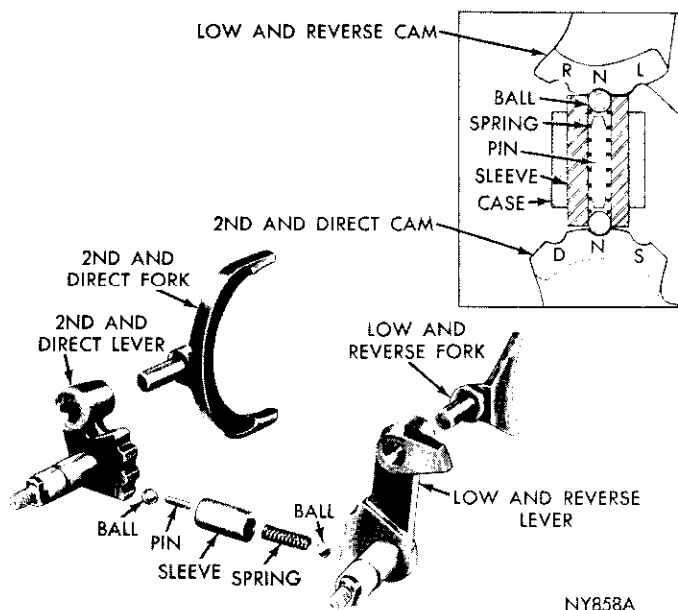

Fig. 25—A-903 Shift Forks and Levers
(1) Remove operating levers from their respective shafts.
(2) Drive out tapered retaining pin from either of the two lever shafts, then withdraw lever shaft from inside transmission. (The detent balls are spring loaded; as shaft is being withdrawn, ball will drop to bottom of the case.)
(3) Remove interlock sleeve, spring, pin and both balls from the case (Fig. 25). Drive out remaining tapered pin, then slide lever shaft out of transmission.
(4) Using a suitable drift, drive out lever shaft oil seals.
Gearshift Mechanism (Fig. 25)
(1) Press bearing on mainshaft then select and install snap ring for minimum end play (Fig. 25).
Note that both shift forks are offset toward rear of transmission (Fig. 25).